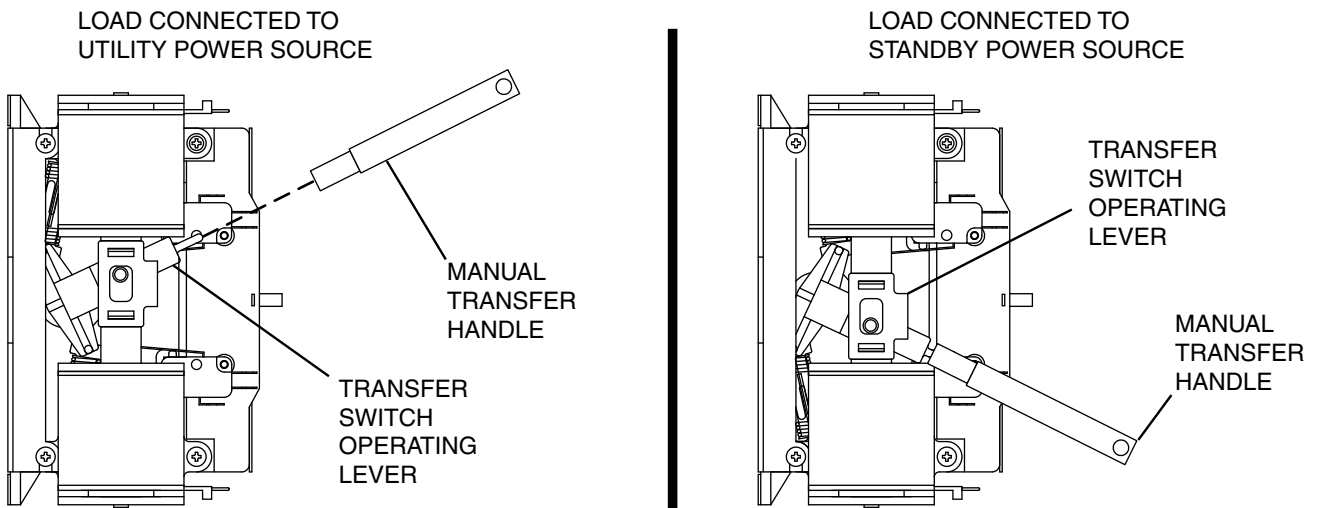

Figure 118. Manual Transfer Switch Operation
5. Insert the un-insulated end of the handle over the transfer switch-operating lever. Refer to Figure 118.